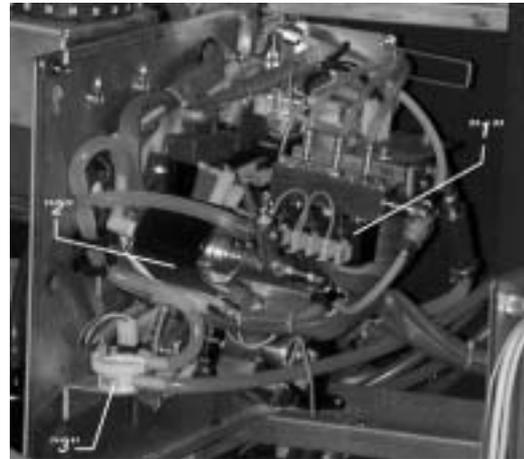

fig. 7
- The solenoid valve for instant products (ref. '1' fig.7), installed on the coffee boiler, is engaged and conveys the programmed quantity of water into the mixer. Then, the pump (ref. '2' fig. 7) is engaged and, controlled by a special electronic device (volumetric counter ref. '3' fig. 7), it dispenses the programmed quantity of water.